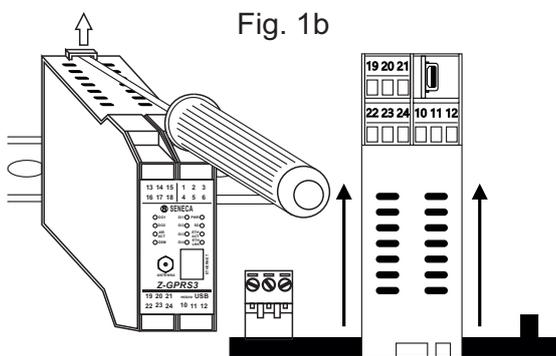

Fig. 1b
- 1) Move the two hooks on the back of the module outwards as illustrated in fig. 1b.
- As shown in fig. 1b: